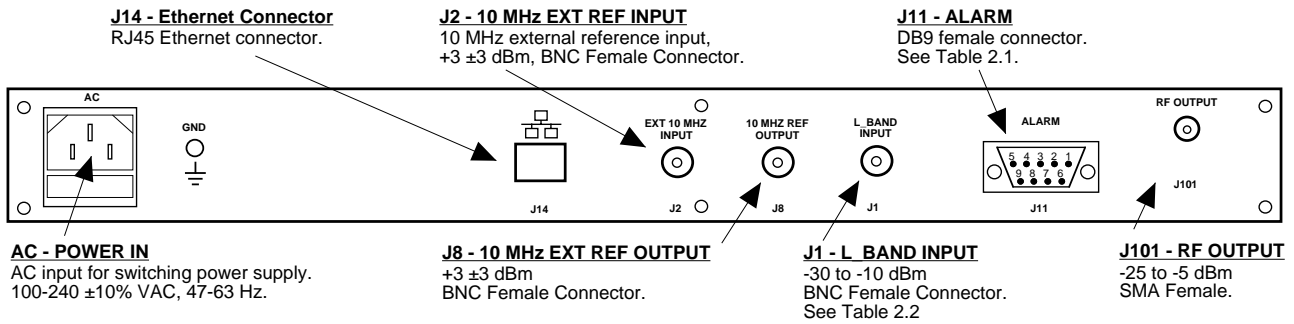

FIGURE 2.1 3115-107-1975 Rear Panel I/O's
Figure 2.1 shows the input and output connectors on the rear panel.
1. Connect a -30 dBm to -10 dBm signal to L-Band IN, J1 (Figure 2.1).